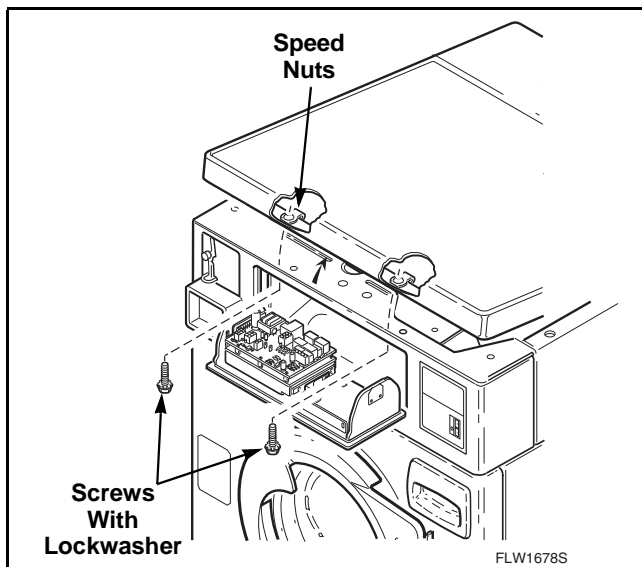

Figure 21
- Remove two screws holding front of cabinet top to top front edge of control cabinet front. Refer to *Figure 21*.
- (4) Remove two screws holding front of cabinet top to top front edge of control cabinet front. Refer to *Figure 21*.
- (5) If area or space permits, lift cabinet top to a vertical position by hinging it on the rear hinges.
- d. Remove two screws holding front of cabinet to top front edge of control cabinet front. Refer to *Figure 21*.